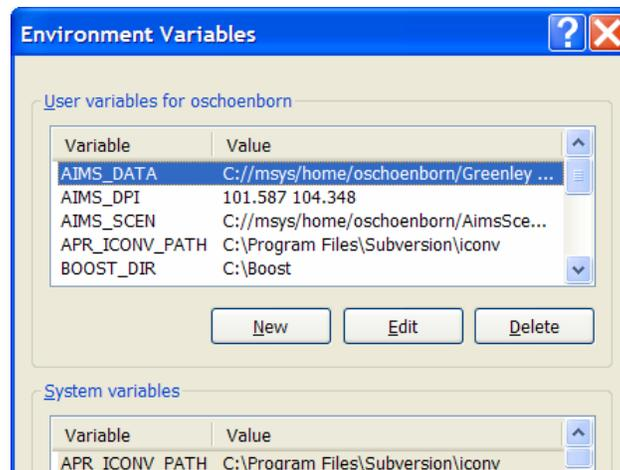

Figure 1: AIMS environment variables defined
7. Define the following AIMSsim environment variables (see Figure 1):